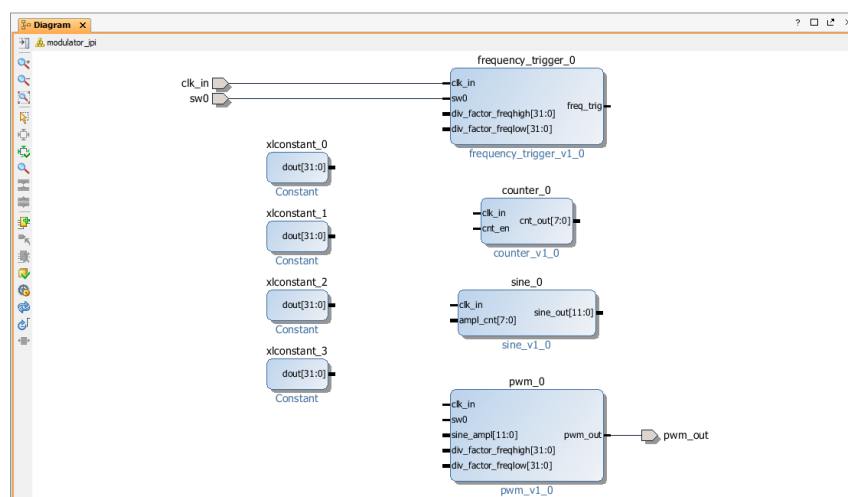

Figure 32. IP Integrator design canvas with new ports
- Repeat the same procedure for **sw0** and **pwm_out** pins. After these modifications, the IP Integrator design canvas should look like as it is shown on Figure 32.